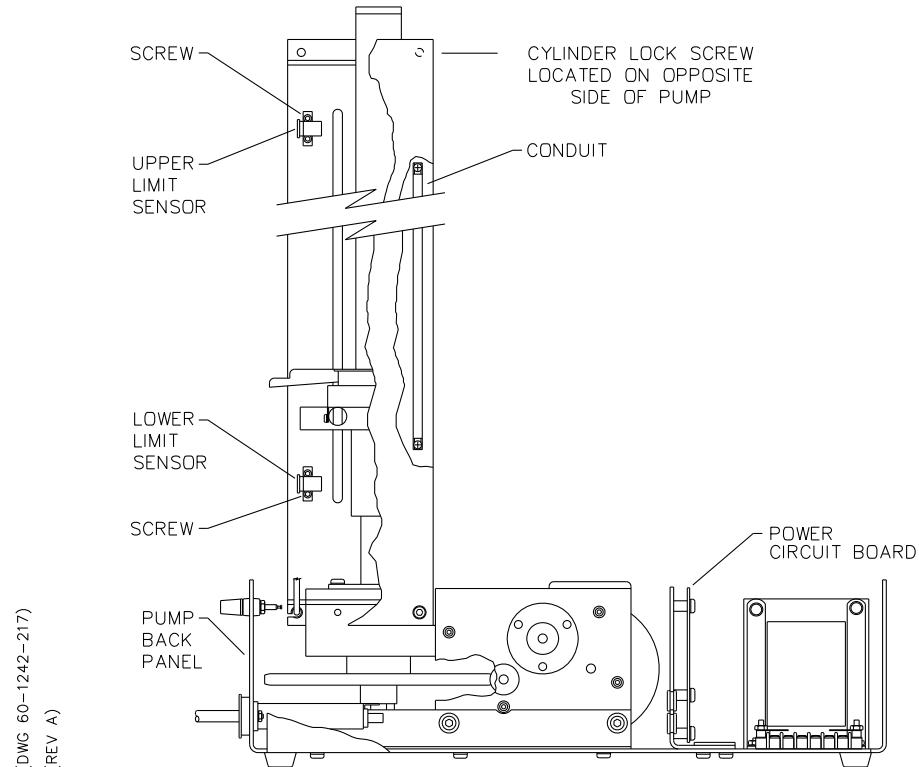

Figure 9-20 Limit sensor replacement
5. The limit sensor assembly includes two limit sensors, the wire harness and connector, and a conduit which protects the wires running between the sensors, Figure 9-20.